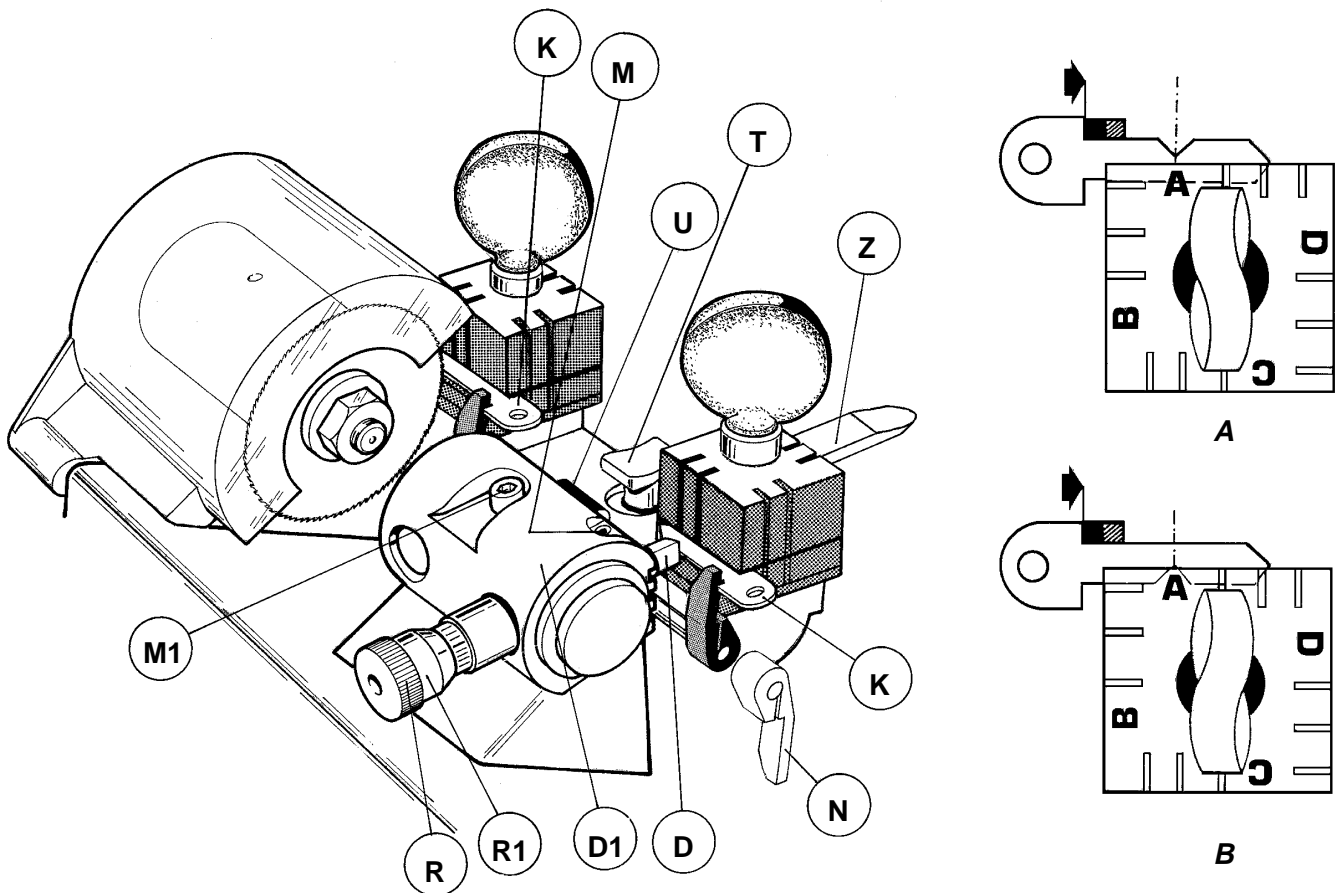

Fig. 2
- 4) Place the setting blanks (K) (see fig. 2-B) in the jaws. Make sure that the blanks are laying flat and level in the jaws. Leave approx. a 1/16" of an inch between the left jaw side and the shoulder of the blanks. Bring the key gauge (N) to the blanks by turning the drum (U) towards you with your thumb, turn in the opposite direction to return the gauges in the neutral position. The gauges should be in contact with both of the blanks shoulders, if not adjust accordingly.
- 1) Place the set up blanks in the jaws as shown in fig. 2-A using the key gauge (N) with the grooves facing the cutter.
- 4) Use the carriage handle (Z) to return the carriage to the neutral position. The carriage will automatically lock in position. The machine is now ready for operation.